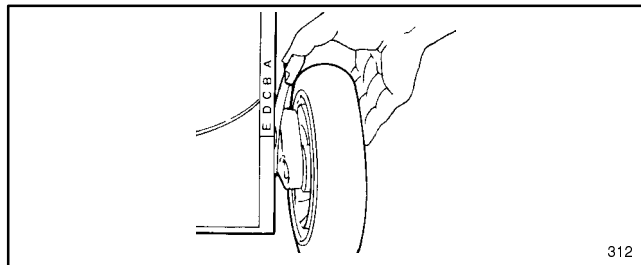

Figure 5
- 2.** Put all four wheels in highest height-of-cut position (Fig. 5).